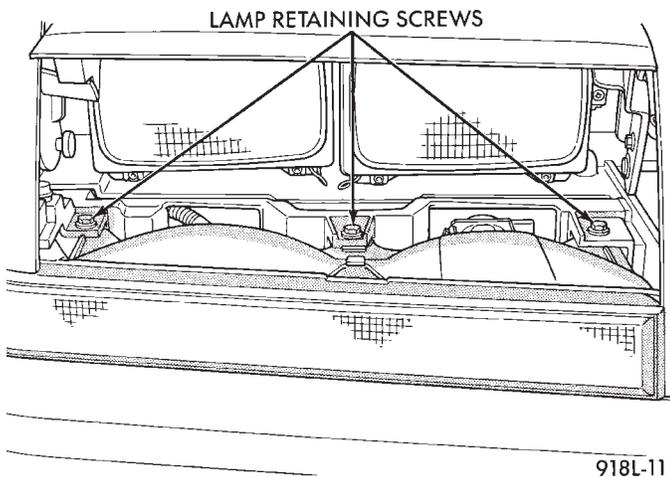

Fig. 5 Turn Signal Lamp Mounting Screws
- (3) Remove screws holding park and turn signal lamp grille opening panel (Fig. 5).